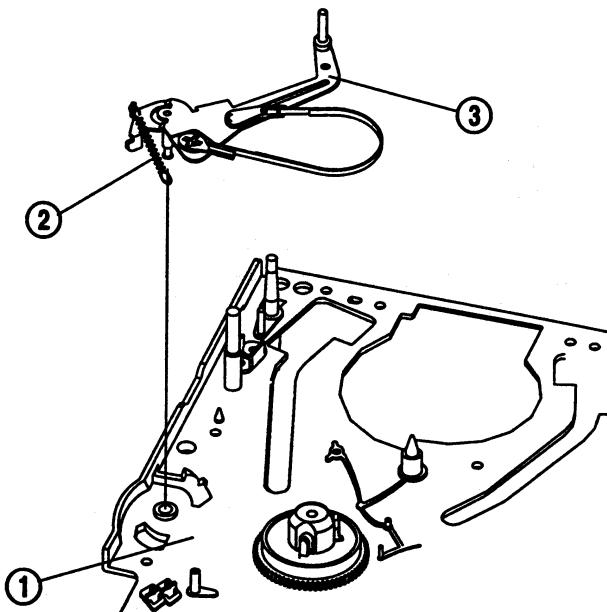

Fig. 26- Tension Band Assembly Removal (1)
#### Tension Band Assembly Removal (Fig. 26, 27)
1. Remove the tension spring ② from the main base ① (Fig. 26)